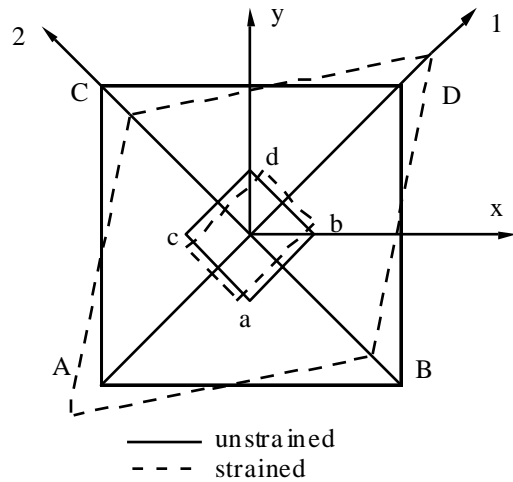

Figure 5: Pure Shear and Principal Axes
e.g. In Figure 5 the square aligned with the xy axes (ABCD) is subjected to pure shear but the diagonals of this square do not rotate. Therefore the sides of a square aligned with the 12 axes (abcd) do not rotate and the abcd square is subjected to normal strains but not shear strain. As shown below, it is possible to use these principal strains to obtain the strains in any other direction.